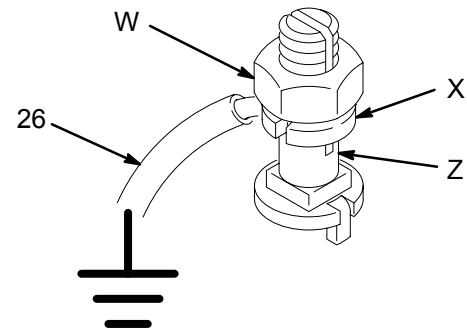

Fig. 1
1. *Pump:* use the ground wire and clamp (supplied). See Fig. 1. Loosen the grounding lug locknut (W) and washer (X). Insert one end of the ground wire (26) into the slot in lug (Z) and tighten the locknut securely. Connect the other end of the wire to a true earth ground.